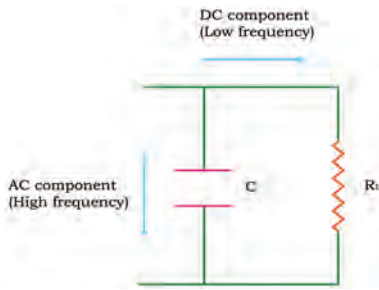

Fig. 7.22: Capacitor filter
Filter is made of capacitor and resistor as shown in Fig. 7.22. This filter is known as resistor capacitor (RC) filter.